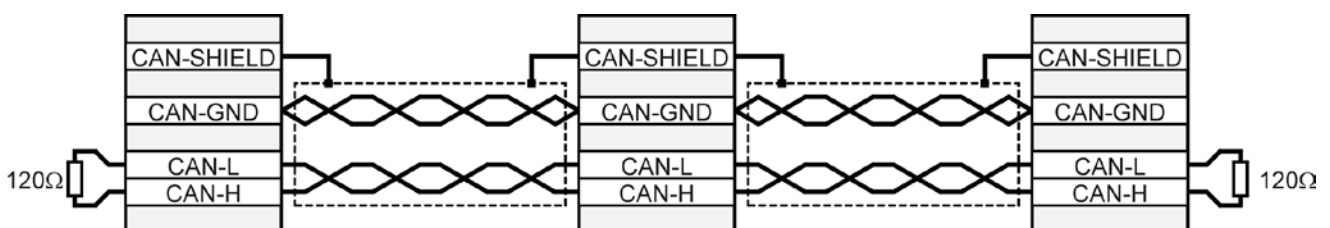

Figure 25: CAN bus cabling example
- The individual nodes of the network are always connected in line so that the CAN cable is looped through from controller to controller (see *Figure 25*).